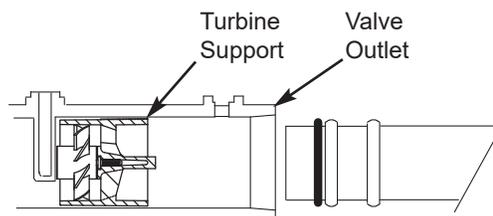

FIG. 6
c. Make sure the turbine support is in place in the valve outlet, as shown in Figure 6.